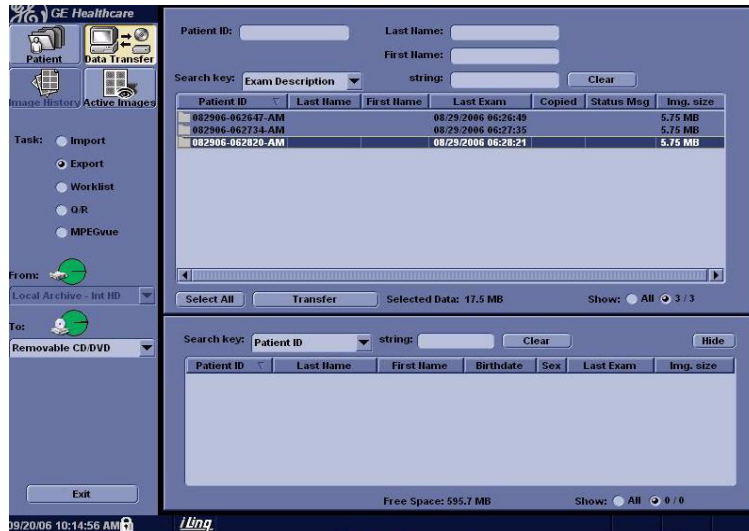

Figure 4-38 Source Section
- 5.) Once you have selected all of the patients to export, press Transfer Button as shown in Figure 4-38.